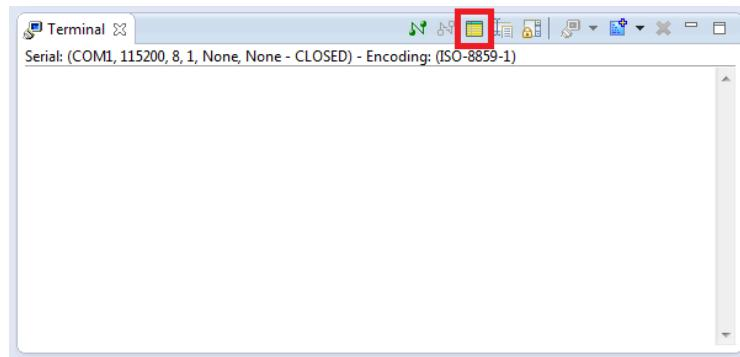

Figure 13-3. ARM DS-5 Serial Terminal
9. We will use the built-in serial terminal available in *ARM DS-5*. Go to “Window > Show View > Other... > Terminal > Terminal” to open *ARM DS-5*’s the built-in serial terminal. You should see the terminal shown in Figure 13-3.